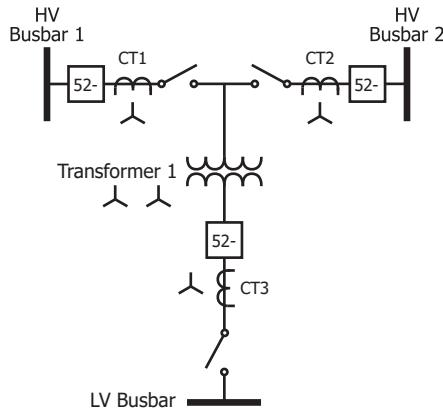

Figure 7.24 Example Substation
Commissioning Assistant compares quantities from a test terminal against quantities from a reference terminal. To avoid ambiguous results, **Commissioning Assistant** processes only two terminals in each test. For multiterminal applications, use one of the terminals from the first test in subsequent tests for the remaining windings. As an example, consider the station shown in *Figure 7.24*. This station has a breaker-and-a-half busbar on the high-voltage (HV) side of the wye/wye (star/star) transformer, and a single busbar on the low-voltage (LV) side. All CTs are wye (star) connected.
- Terminal S: HV left-hand CT (CT1 in *Figure 7.24*)
- Terminal T: HV right-hand CT (CT2 in *Figure 7.24*)
- Terminal U: LV CT (CT3 in *Figure 7.24*)